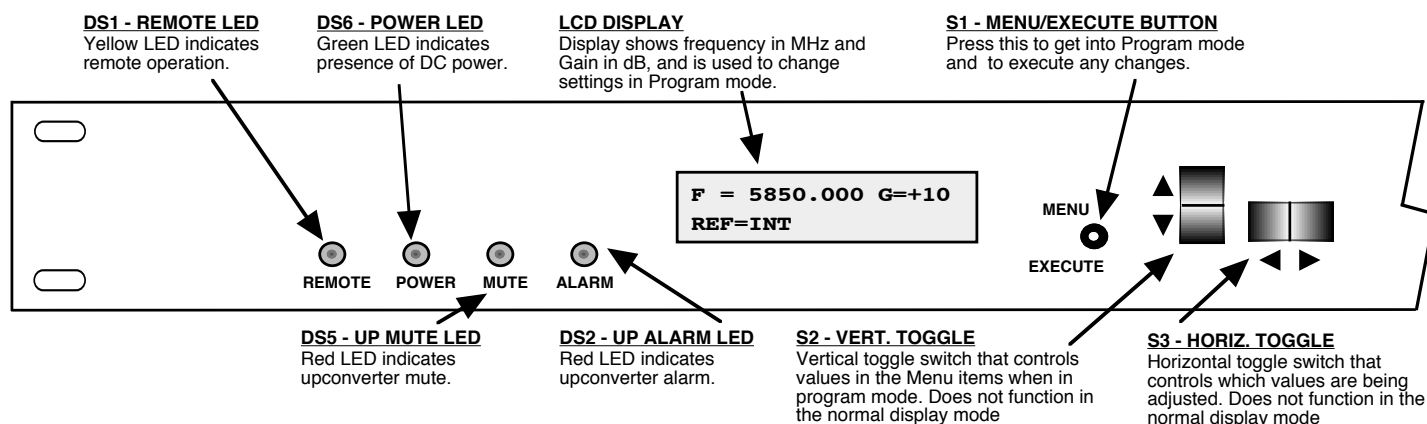

FIGURE 2.3 2015-5767 Front Panel Controls and Indicators
2.3 Front Panel Controls and Indicators - Figure 2.3 shows the front panel controls and indicators.
7. Be sure DS6 (green, DC Power) is on and DS2 (red, Alarm) is off (Figure 2.3).